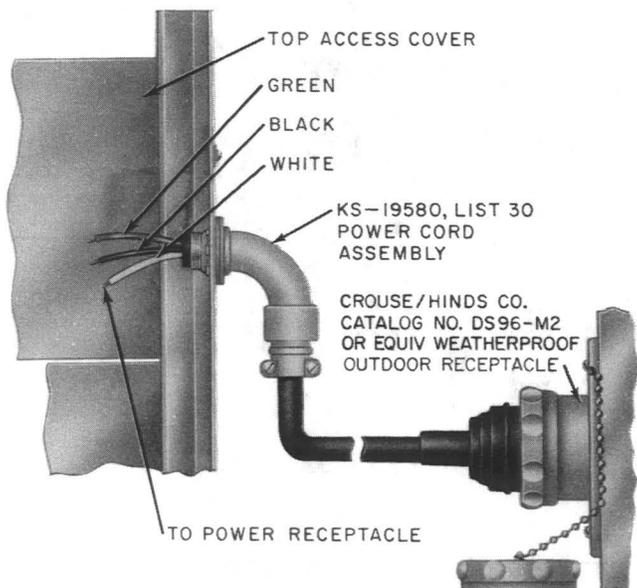

Fig. 15—KS-19580, List 30 Power Cord Assembly Overhead Entrance
3.12 For overhead entrance with plug-in features, use KS-19580, List 30 power cord assembly and install per Fig. 15.